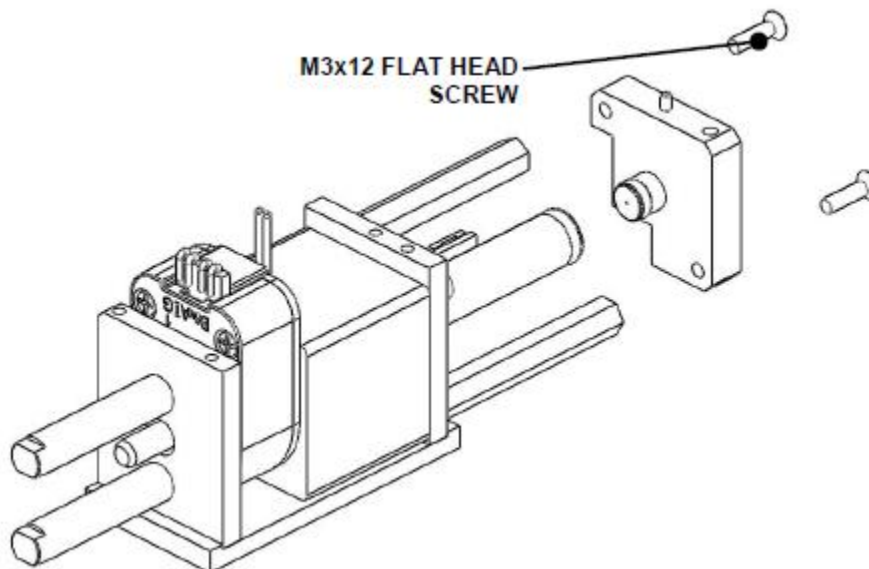

Figure U-17: Removing the Syringe Manifold from the Dispense Tube
3. Remove the Syringe Manifold from the Dispense Tube (Figure U-17)